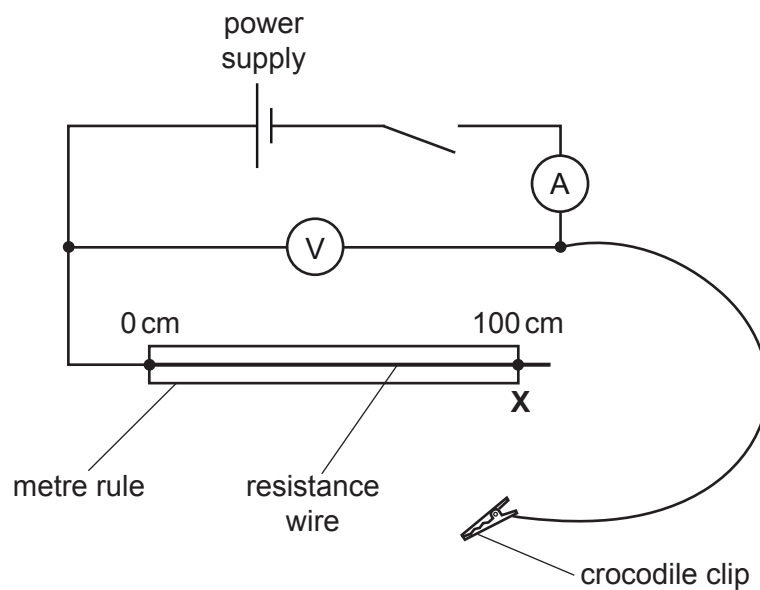

Fig. 3.1
- (a) Fig. 3.1 shows the circuit that he sets up to find the potential difference (p.d.) across the 100.0 cm length of wire and the current through the wire.